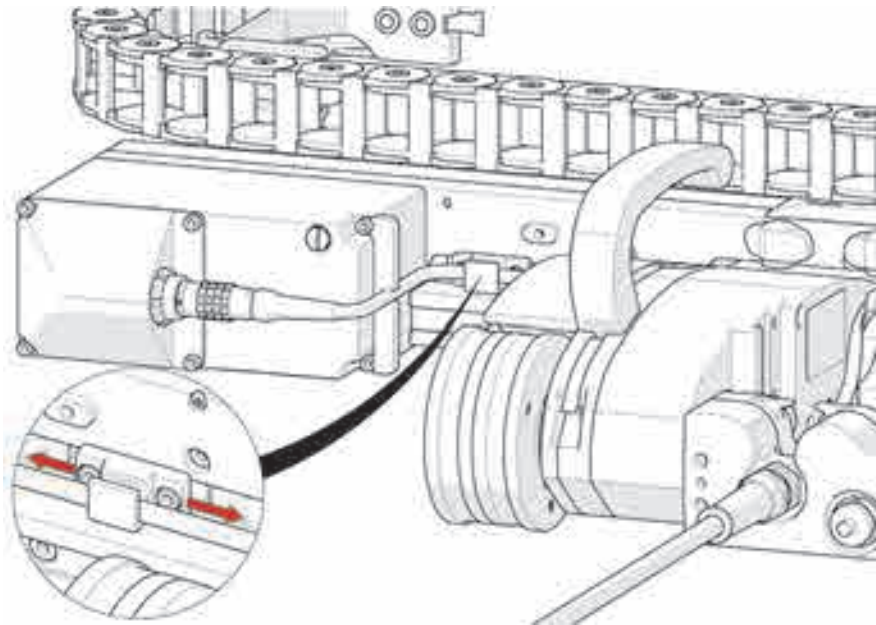

Figure 4-47 Adjustable cable clips
3. Route the cable through the adjustable clips on the raster arm (see Figure 4-47 on page 131).